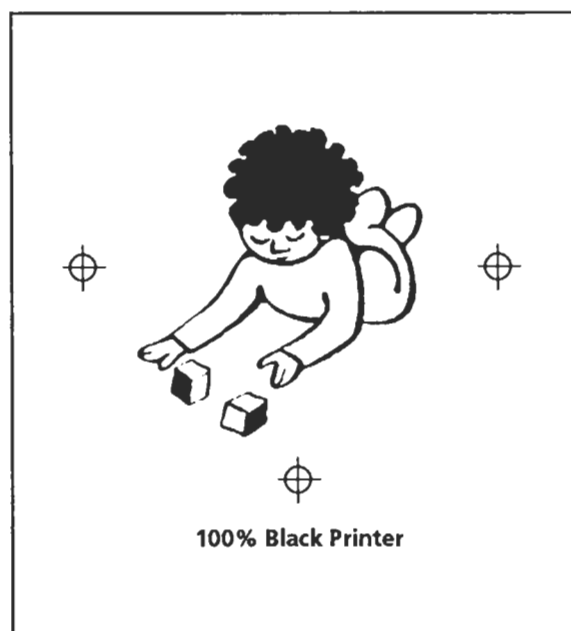

Figure 2 - Base Art with Register Marks
2. Place three **register marks** on the **base art**. Two marks should be located at the center of the left and right image areas, and the third mark at the center of the bottom. (See Figure 2.) On the tracing paper, trace the 100% black lines, detail work, and solid areas first. Label this sheet 100% BLACK PRINTER.